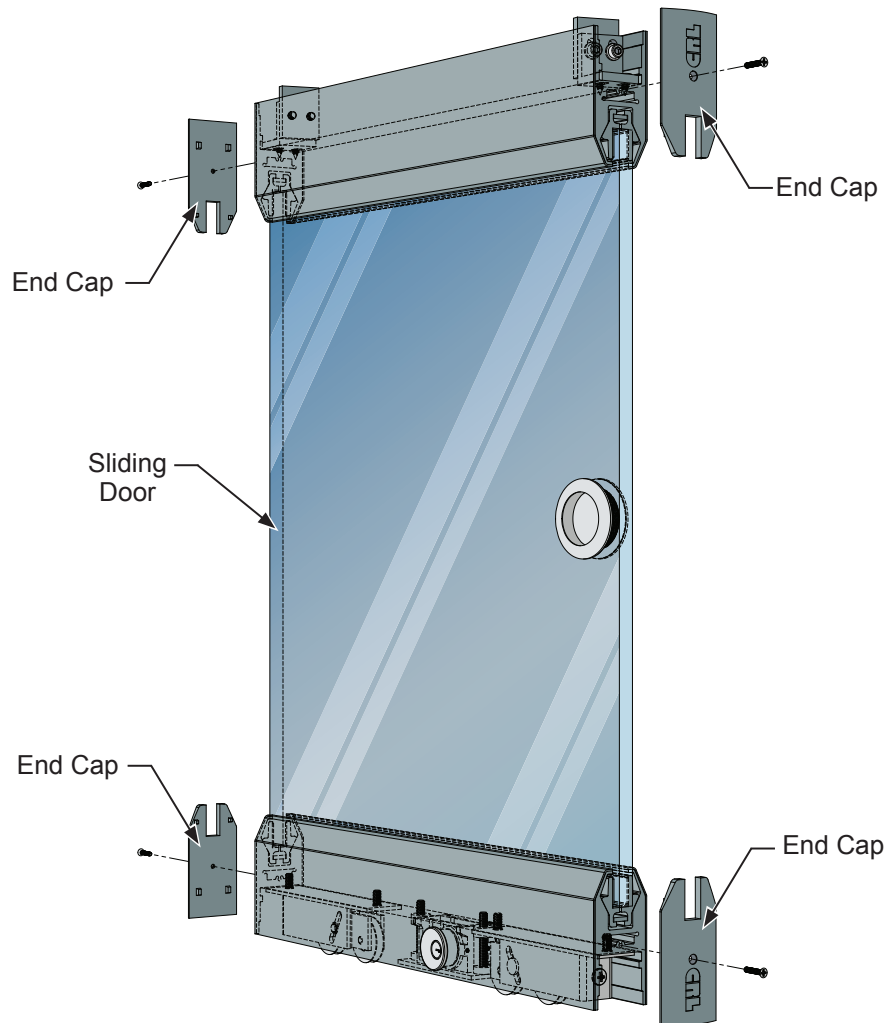

FIG. 14
10. Re-Install the End Caps from both Top and Bottom Rails. (FIG. 14)